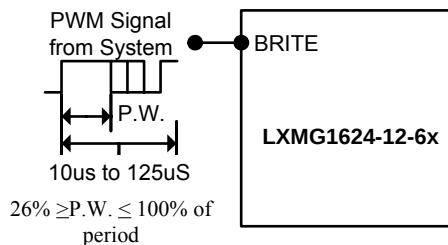

Figure 1A – PWM Brightness Control
- The brightness control may be a voltage output DAC or other voltage source, a digital pot or 20K manual pot. The inverter contains an internal 10K pull-up to 3V to bias the pot, add a 1.8K to 3.9K resistor to set the lower threshold voltage. A 3.3V Logic Level PWM signal from a microcontroller may also be used as shown in Figure 1A.